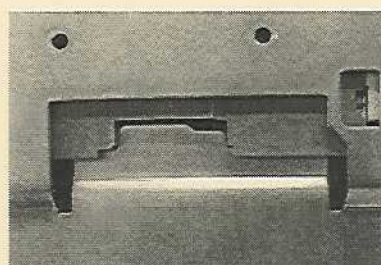
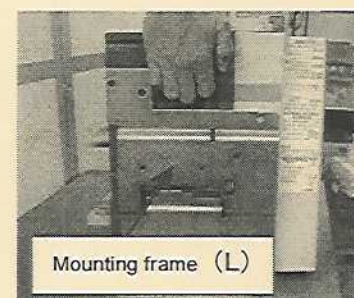

Fig. 4
Fig. 5
Lift up the circuit breaker to remove the projection part of the Mounting frame (L) from the recessed part of the circuit breaker. (Fig. 4, Fig. 5)